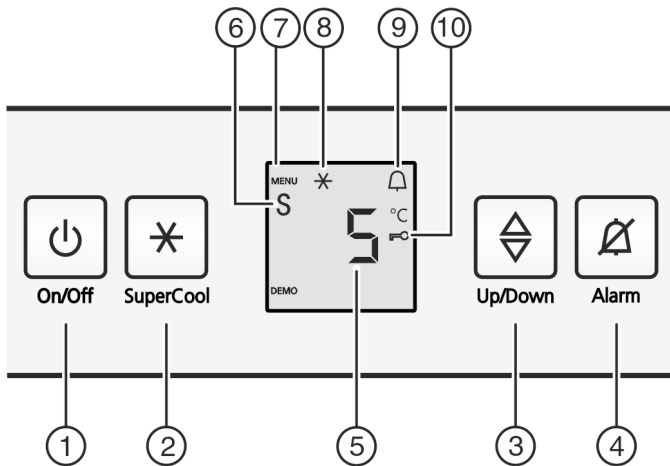

Fig. 2
- ▶ Press the On/Off button Fig. 2 (1).
- ▶ Activate setting mode: Press the SuperCool button Fig. 2 (2) for around 5 seconds.
- ▷ The menu symbol Fig. 2 (7) shines.
- ▶ Use the Settings button Fig. 2 (3) to select **c**.
- ▶ Briefly press the SuperCool button Fig. 2 (2) to confirm.
- ▶ to activate the child lock, briefly press the SuperCool button Fig. 2 (2).
- ▷ The child lock symbol Fig. 2 (10) shines. **c** flashes in the display.
- ▶ to deactivate the child lock, briefly press the SuperCool button Fig. 2 (2).
- ▷ The child lock symbol Fig. 2 (10) goes out. **c** flashes in the display.
- ▶ To deactivate the set-up mode: press On/Off button Fig. 2 (1).
- ▶ Press alarm button Fig. 2 (4).
- ▶ Activate setting mode: Press the SuperCool button *Fig. 2 (2)* for around 5 seconds.
- ▷ The Menu symbol *Fig. 2 (7)* lights up.
- ▶ To call up the Sabbath Mode function: Briefly press the SuperCool button *Fig. 2 (2)*.
- ▶ To switch on Sabbath Mode, briefly press the SuperCool button *Fig. 2 (2)*.
- ▶ To switch off Sabbath Mode, briefly press the SuperCool button *Fig. 2 (2)*.
- ▶ Deactivate setting mode: Press the On/Off button *Fig. 2 (1)*.
- ▷ The temperature display shows the Sabbath Mode symbol *Fig. 2 (6)* as long as Sabbath Mode is on.